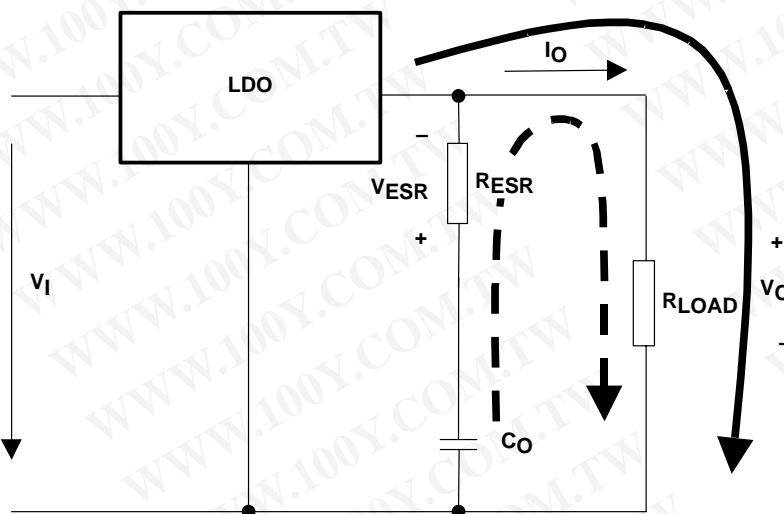
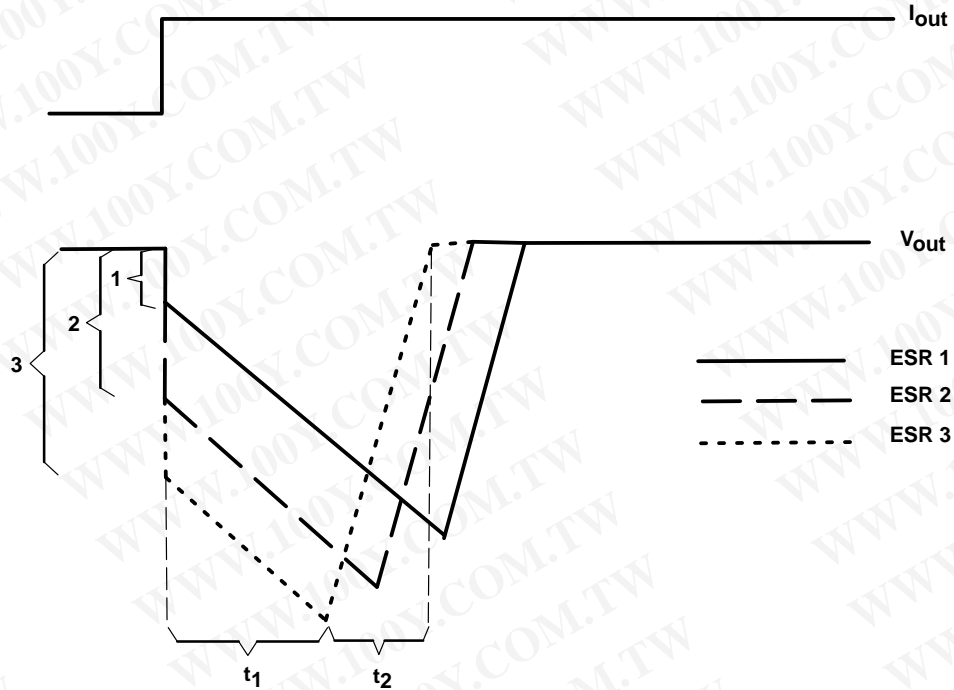

Figure 22. LDO Output Stage With Parasitic Resistances ESR
Figure 23. Correlation of Different ESRs and Their Influence to the Regulation of V_{out} at a Load Step From Low-to-High Output Current
Figure 22 shows the output capacitor and its parasitic impedances in a typical LDO output stage.
- The LDO is not able to supply the sudden current need due to its response time (t_1 in Figure 23). Therefore, capacitor C_{out} provides the current for the new load condition (dashed arrow). C_{out} now acts like a battery with an internal resistance, ESR. Depending on the current demand at the output, a voltage drop will occur at R_{ESR} . This voltage is shown as V_{ESR} in Figure 22.
- When C_{out} is conducting current to the load, initial voltage at the load will be $V_{out} = V_{Cout} - V_{ESR}$. Due to the discharge of C_{out} , the output voltage V_{out} will drop continuously until the response time t_1 of the LDO is reached and the LDO will resume supplying the load. From this point, the output voltage starts rising again until it reaches the regulated voltage. This period is shown as t_2 in Figure 23.